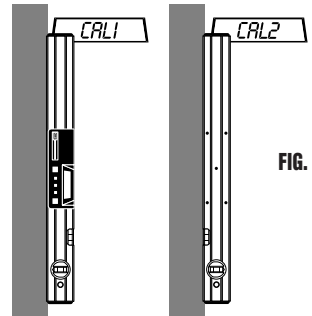

FIG. 5
Step 5: Place SMARTTOOL™ against a flat vertical surface with the display facing you, the plumb vial at the bottom, and the level vial away from the surface. Wait 10 seconds. Push the CALIBRATE button for 2 seconds until CAL1 appears on the display. Step 6: Turn SMARTTOOL™ with the display facing away from you, along its long axis (the plumb vial is still at the bottom, but the level vial is now against the flat vertical surface.) Wait 10 seconds. Push the CALIBRATE button for 2 seconds until CAL2 appears on the display. (see fig. 5) Step 7: Place SMARTTOOL™ against the flat vertical surface with the plumb vial at
Paso 6: voltee el medidor de nivel sobre su eje vertical para que el visualizador digital quede alejado de usted, (con la ampolleta de plomada aún hacia abajo, pero con la ampolleta de nivel contra la superficie vertical plana). Espere 10 segundos. Presione el botón CALIBRADOR por 2 segundos hasta que en el visualizador digital aparezca CAL 2 (vea la Fig. 5)